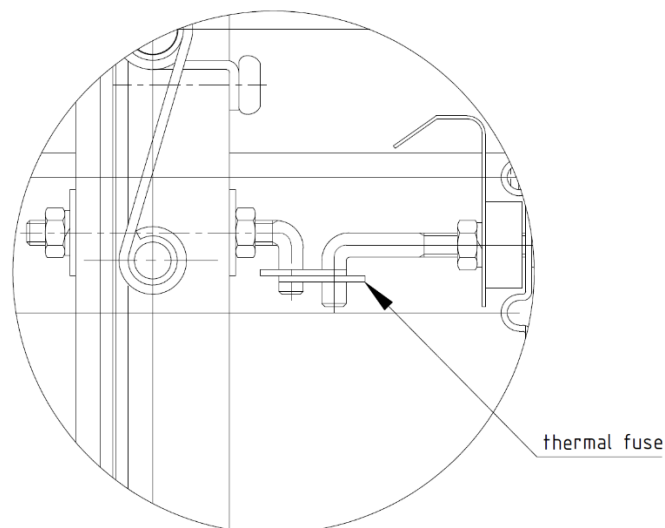

Figure 11. Thermal fuse installation method
4. After drying of the mortar (approx. 48h), remove used supports, test the fire damper operation and leave it in the fully open position (by installing the thermal fuse in the KTM type fire damper as shown in fig. 11).